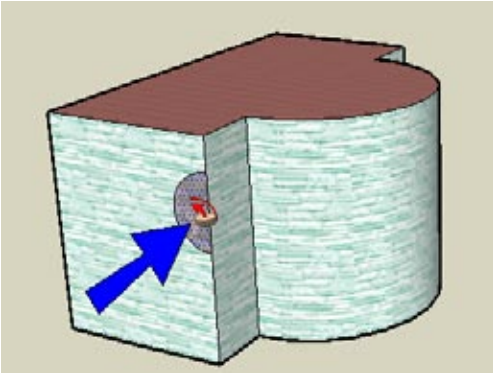

Figure 2-4
- 3. Click the Follow Me face (Figure 2-4).